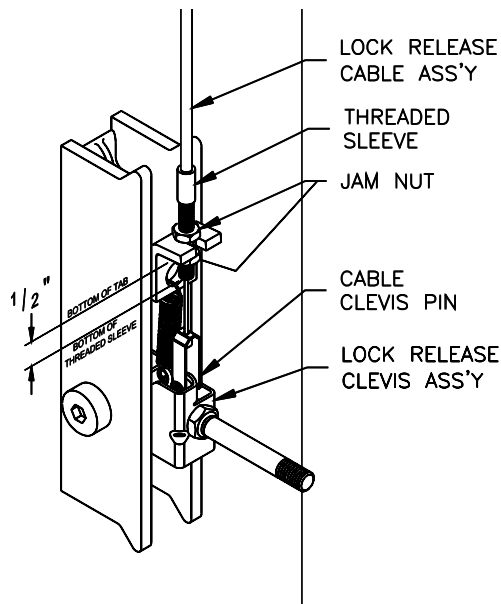

Fig 11 – Power Column Lock Assembly
- 26) Attach Mechanical Lock Release Cable Assembly to Power Column Lock Release Clevis using the 3/16" diameter x 1/2" long pin and (2) "C" clip retainers, **Fig 11**.
- 27) Insert threaded sleeve portion of cable assembly in slot located on tab above locking pawl, **Fig 11**. One jam nut should be located on each side of tab. Position threaded sleeve with 1/2" of thread below tab as indicated in **Fig 11** and tighten jam nuts.